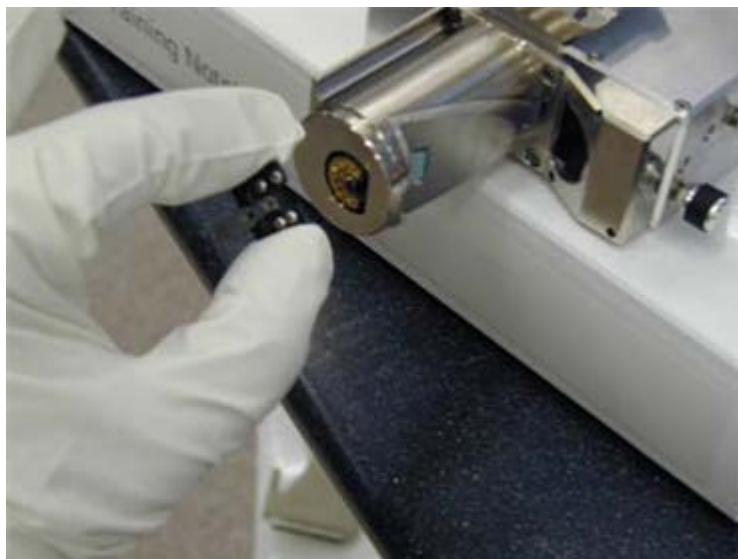

Figure 6. Installation of the probe holder on the D3100 AFM head.
- d) Carefully remove the AFM head by gently sliding it up the dovetail rail holder. Install the probe and probe holder (Figure 6), taking great care to align the holes on the probe holder with the contact pins on the AFM head.